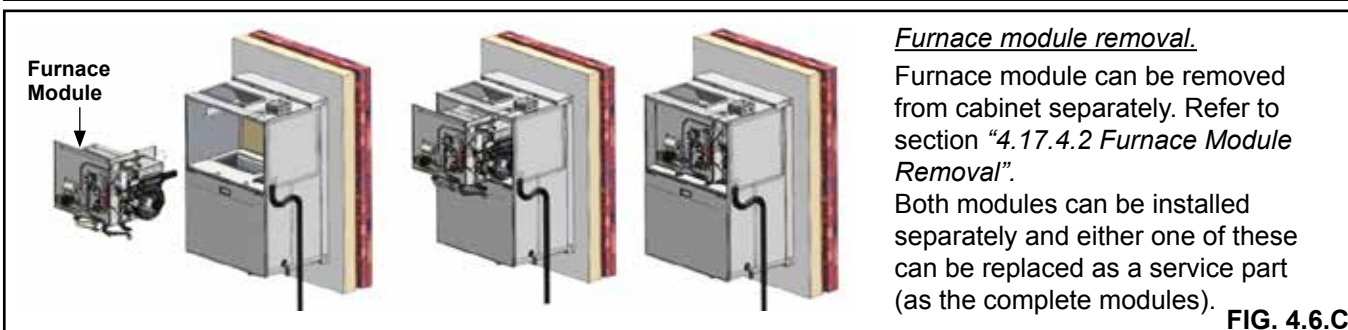

FIG. 4.6.C
3. Use a flat washer with each 1/4"-20 x 1 1/4" screw. Secure Condo Pack unit to the Wall Sleeve using five 1 1/4" screws through the isolation grommets in the five holes on the Wall Sleeve top mounting bracket (see FIG. 4.6.D).